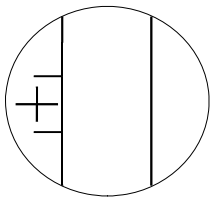

Fig.9
- 5.3.2 Before measuring the indentation, rotate the eye guard to enable two graduated lines clearly observed in eyepiece (see Fig.9).